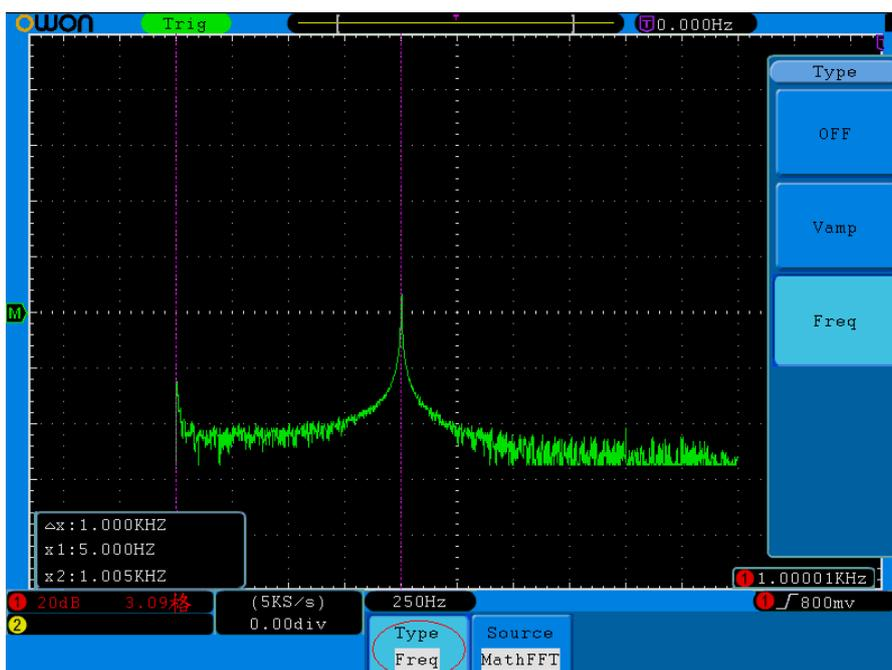

Figure 5-76 Wave of Freq cursor measurement
3. According to the measured waveform, adjust the positions of Cursor1 and Cursor2 by turning the **VERTICAL POSITION** knob of CH1 and CH2. Increment window shows two cursors difference value and the present position (see *Figure 5-76*).